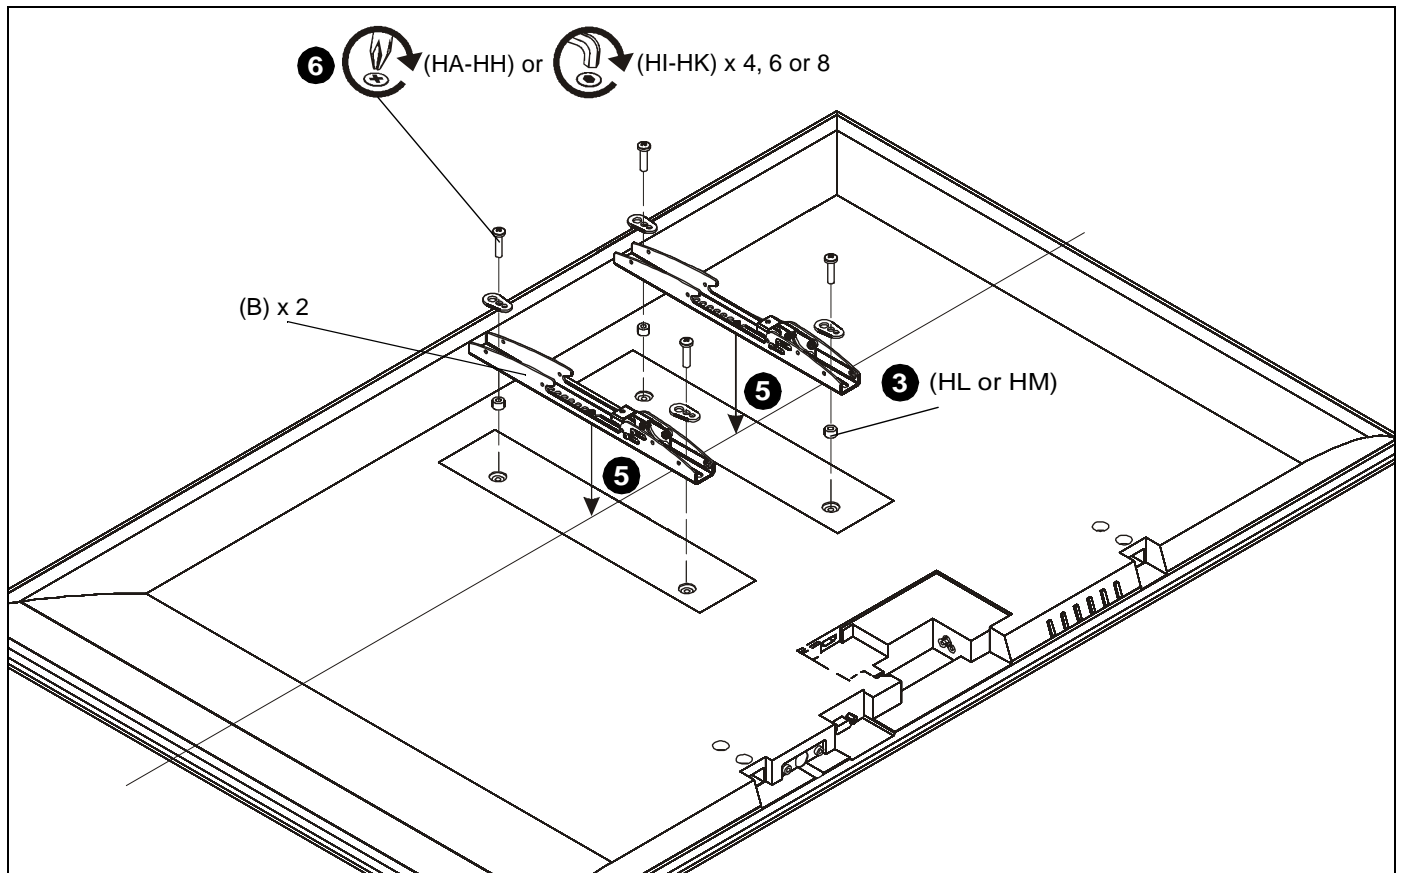

Figure 3
2. Select screw *diameter* by examining hardware (HA-HK) (4mm, 5mm, 6mm or 8mm) and comparing with mounting holes on display. (See Figure 3)
3. Select spacers: (See Figure 3)
- If mounting holes are not recessed and both uprights (B) can lay flat against display, then no spacers are required.
- If mounting holes are recessed, or if protrusions prevent uprights (B) from laying flat, then spacers (HL or HM) must be used.
4. Select screw *length*: (See Figure 3)
- Using your hand, insert **SHORTEST** length screw of selected diameter (HA, HD, HG or HI) through universal washer (HN), uprights (B), selected spacer (HL or HM), into display mounting hole. Do **NOT** thread screw into hole at this time.
**NOTE:** Universal washers (HN) are not needed if using M8 button head cap screws (HI, HJ or HK).
5. Place uprights (B) on display, ensuring: (See Figure 3)
- Center of uprights (B) are as close to the center of the back of display as possible after being installed. Center of bracket is indicated by the diamond-shaped hole.
6. Use selected screws and spacers to install two interface uprights (B) to back of display. (See Figure 3)